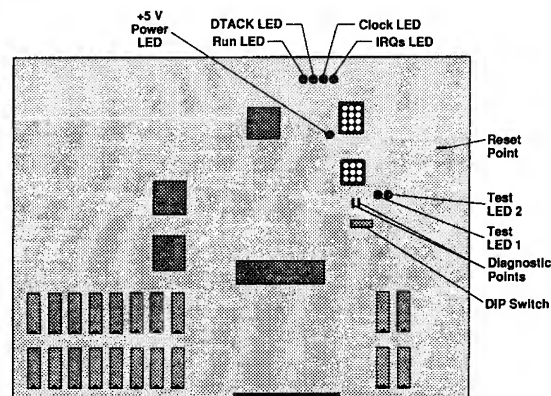

Figure 2-22 DIP Switch and LED Locations on the Main PCB
Figure 2-22 shows the location of the LEDs on the main PCB. Table 2-6 shows the possible status of the LEDs, with an explanation of what they indicate.
1. Put a jumper across the DIAGN test points, shown in Figure 2-22.
4. Put a jumper momentarily across the RESET test points, shown in Figure 2-22.